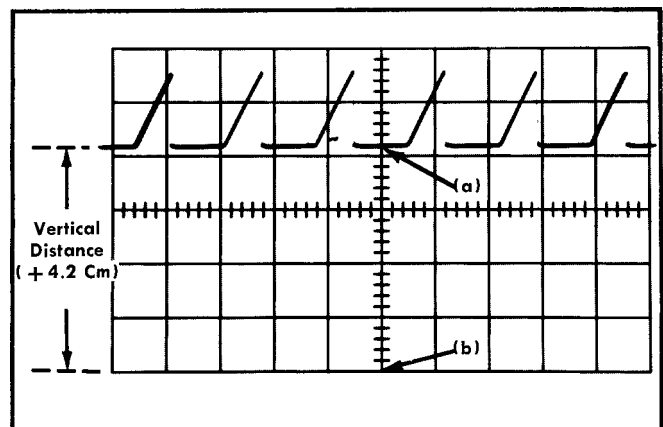

Fig. 3-2. Measuring instantaneous voltage with respect to some reference.
3. Set the Channel 1 INPUT SELECTOR switch to GND and position the trace (with the Channel 1 POSITION control) along one of the horizontal graticule lines such as point (b) in Fig. 3-2. This line will be used as a ground (or zero) reference line. In any case, the reference line chosen will depend upon the polarity and dc level of the signal to be measured. Do not move the Channel 1 POSITION control after the reference line has been established.
7. Measure the vertical distance in centimeters from the ground (zero) reference line established in step 3 to the point on the waveform that you wish to measure, such as between (a) and (b) in Fig. 3-2. If the NORM-INVERT switch is set to NORM and the point on the waveform is above the reference line, the polarity is indicated to be positive (+). If the point is below the line, the polarity is negative (—). If the NORM-INVERT switch is set to INVERT, the indicated polarities will be reversed.
8. Multiply the measured distance by the setting of the VOLTS/CM switch and the attenuation factor, if any, of the probe. This is the instantaneous dc level of the point measured. For example, assume the vertical deflection is 4.2 cm above the reference line (see Fig. 3-2) using a 10X attenuator probe with the NORM-INVERT switch set to NORM and the VOLTS/CM switch set to 2. Substitute these values in the following formula: